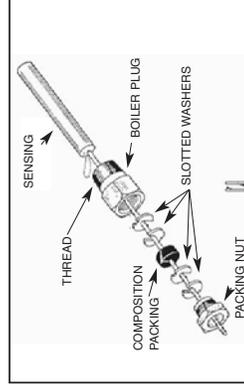

FIG. 7-PRESSURE FITTING ASSEMBLY.
- 4 Place composition disc and the four slotted brass washers on tubing in the order shown in Fig. 7.